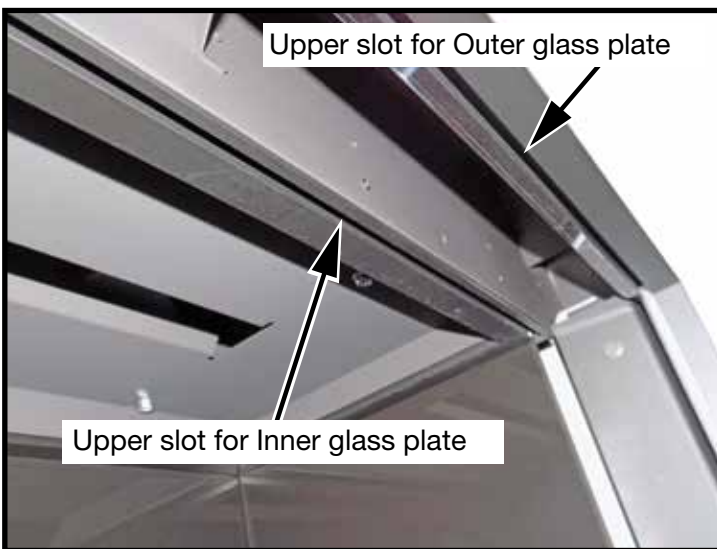
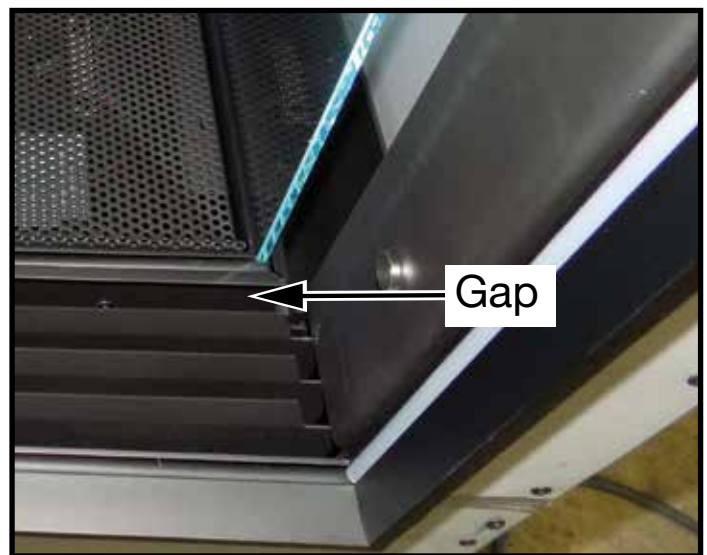

Figure 37: Upper slots for front glass plates.
Figure 38: Insertion point between furthest louver and lower inside slot.
Because of working space constraints, the upper edge of the inner glass plates cannot be immediately inserted into the upper inner slots (Figure 37) until the bottom edge of the glass plate has been lowered into the large gap between the furthest louver and the lower inner slots (Figure 38). Once the glass plate has been lowered into this gap the upper edge can then be lifted up into the upper inner slot.
1. There are 3 horizontal louvers at the bottom of the fireplace opening extending the length of the opening. The bottom edge of the inner glass plates will be inserted down into the gap behind the furthest louver (Figure 38).